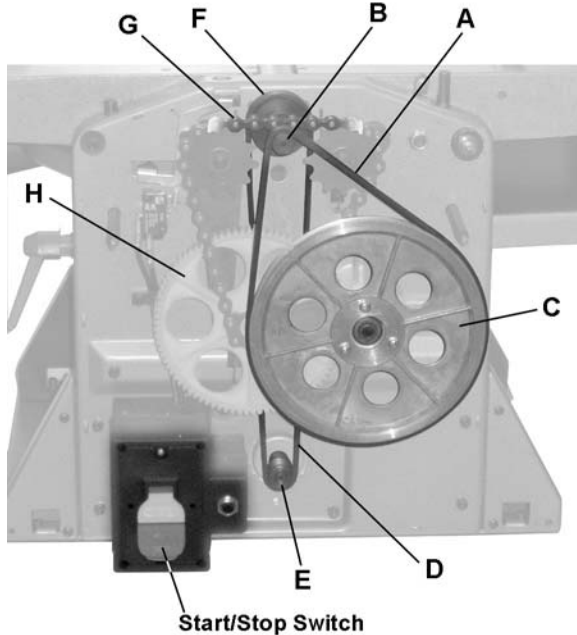

Figure 19
Refer to Figure 19 when installing or replacing the the *feed-roller* (A) or *cutterhead drive* (D) belts.